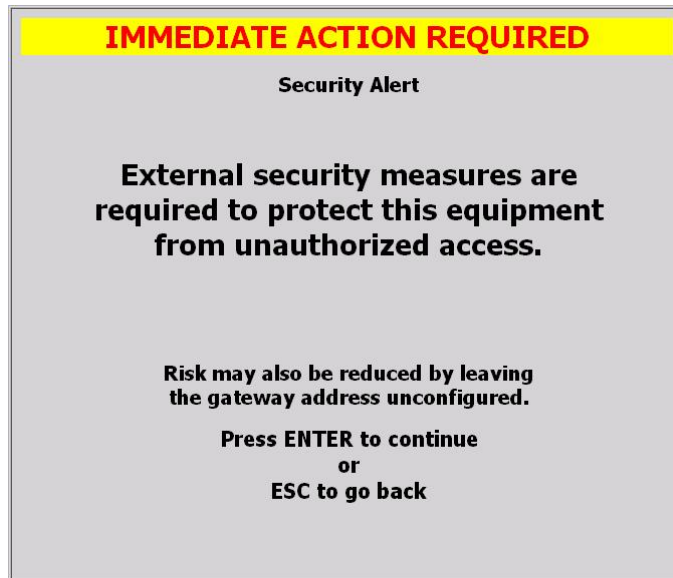

Figure 4.3-1 Network Connection Security Alert
7. Read the alert (see Figure 4.3-1), and press Enter.